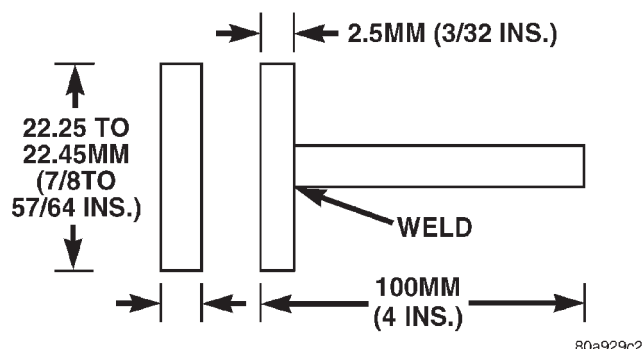

Fig. 10 Tool For Outlet Removal
(3) Using external snap ring pliers with 90 degree tips. Insert pliers with tips against bosses and squeeze forcing bosses out of base.
(4) Pull out the base through mounting ring by gently rocking pliers. A tool can be made to do the same. Refer to (Fig. 10).
(5) Disconnect the base wires.
(6) Set base aside and remove base mount ring.